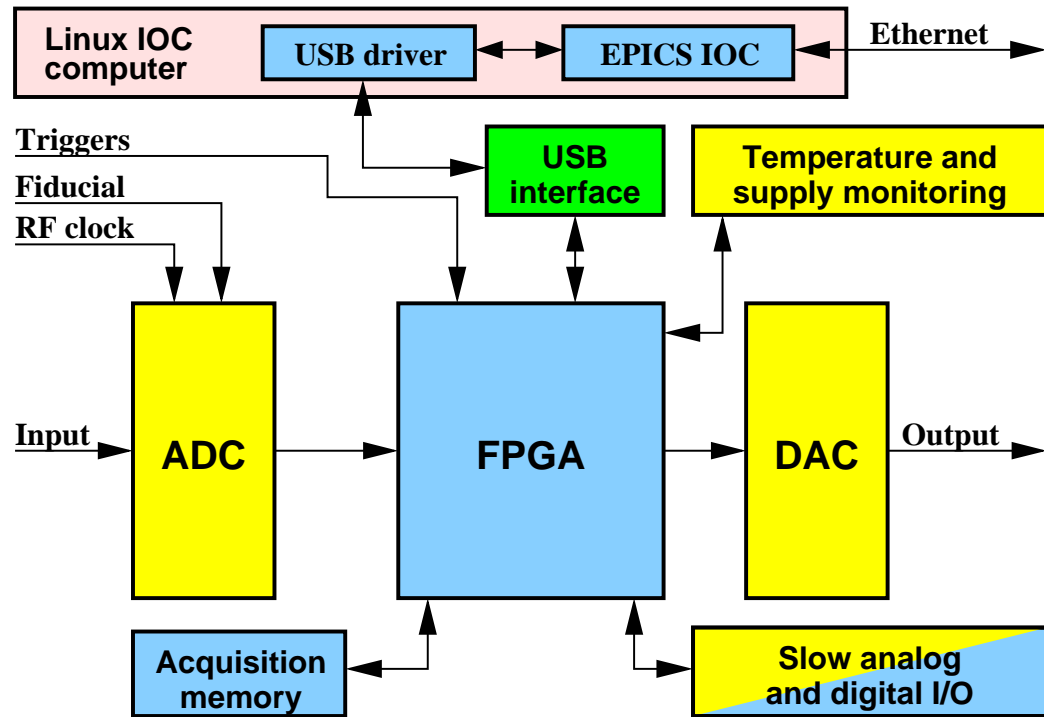

Figure 1: iGp12-45F block diagram
A block diagram of the iGp12-45F system is shown in Figure 1. The main signal processing chain consists of a high-speed 12-bit analog-to-digital converter (ADC), a field programmable gate array (FPGA), and a high-speed 12-bit DAC, all driven by the radio frequency (RF) clock. In addition to performing real-time control computations, the FPGA interfaces to a number of on-board devices, such as high-speed data acquisition memory (static random access memory (SRAM)), low-speed analog and digital input/output (I/O), as well as temperature and supply voltage monitors. In turn, the FPGA uses an internal universal serial bus (USB) connection to communicate to an embedded input-output controller (IOC) computer housed in the same chassis. The IOC runs the Linux operating system and is connected to the overall control system via the Ethernet.